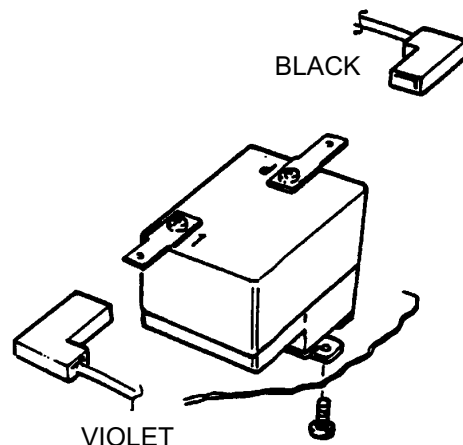

Fig. 33A
6. Re-connect push on connector. The VIOLET/BLACK wire to 1 and BLACK (3) wire to P, See Fig. 33A.